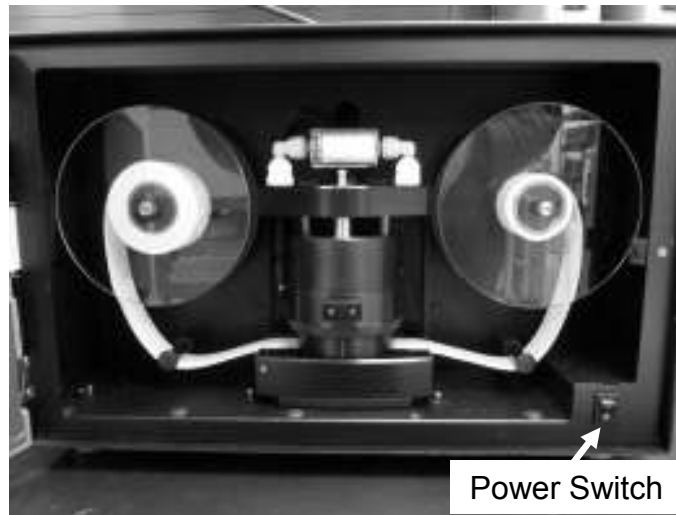

Figure 1
- 1.) Open the front panel of the M633 by pressing the button on the right hand side and then pulling on the piston that pops out. You should now see the inside of the M633 (Figure 1).
- 2.) Turn off the power to the unit using the front power switch (Figure 1).